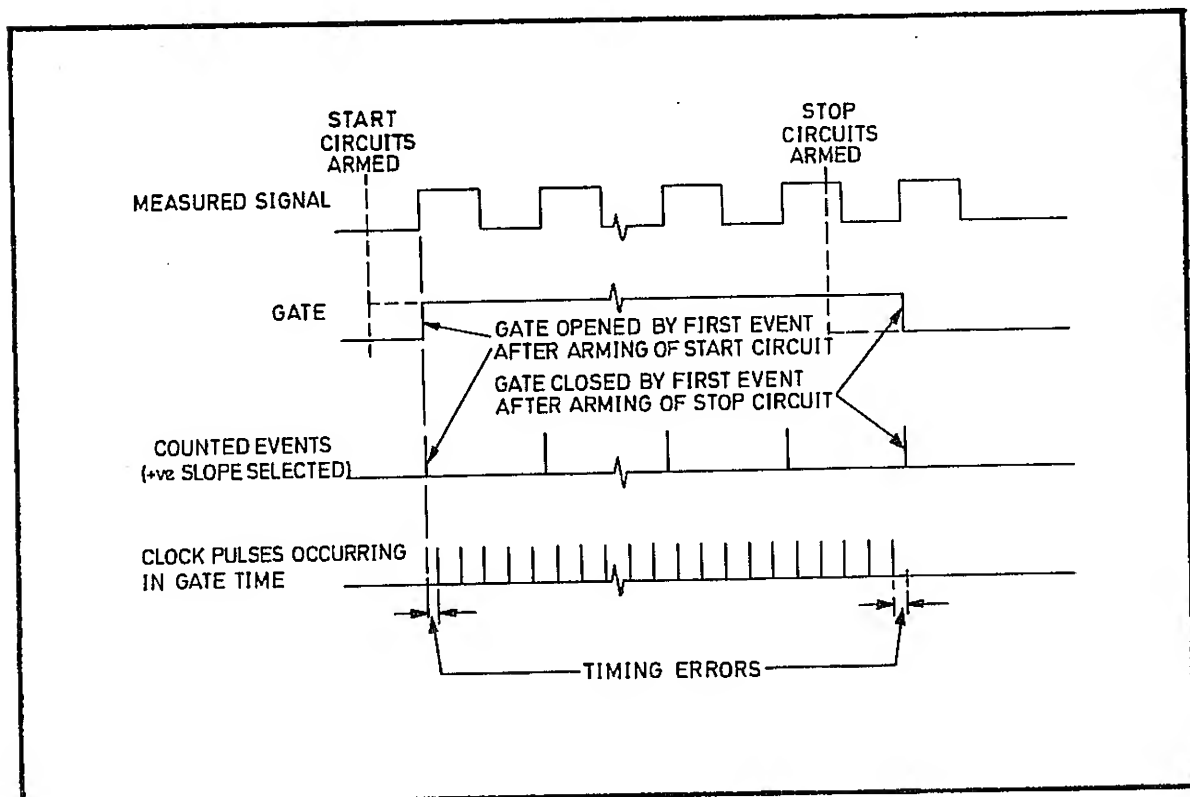

Fig 6.5 Basic Recipromatic Counting Technique
- 38 The circuits within MCC1 and MCC2 are configured by the microprocessor according to the measurement function in use. The recipromatic counting technique is used. With this technique the measured signal, not the counter clock pulses, controls the start and stop of the measurement period (gate time) as shown in Fig 6.5. The gate time therefore extends over an integral number of cycles of the measured waveform. The gate time is measured by counting the clock pulses which occur while the gate is open. This leads to timing errors at both ends of the gate time, as shown. The TEC circuit enhances the measurement accuracy by compensating for these errors.